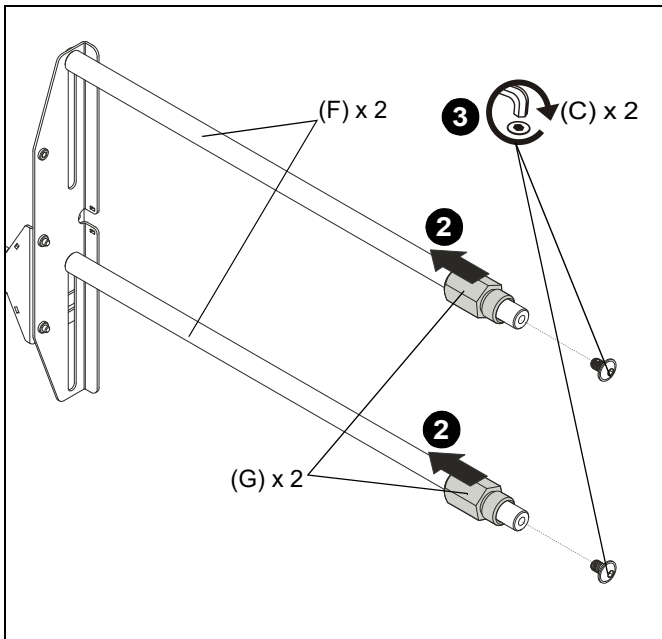

Figure 4
- Slide rail bushings (G) onto extension bars (F). (See Figure 4)
- Install two 5/16-18 x 1/2" button head cap screws (C) into ends of extension bars (F) to keep bushings (G) from sliding off bars. (See Figure 4)